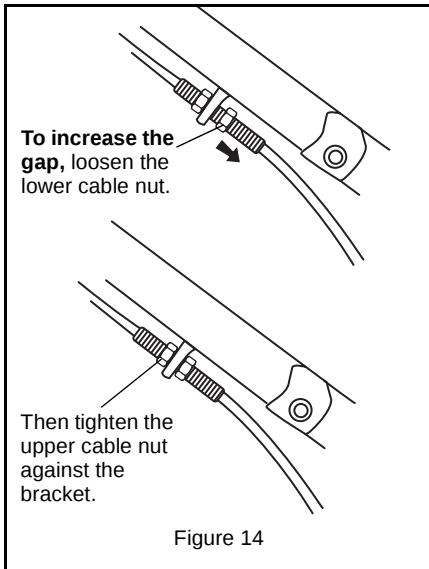

Figure 14
1. Loosen the lower cable nut on the wheel drive control cable, and then tighten the upper cable nut against the adjuster bracket. See Figure 14.